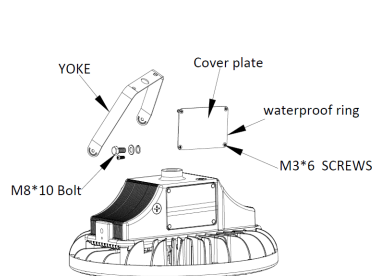

FIG. 6
- Find the accessories shown in Fig. 6